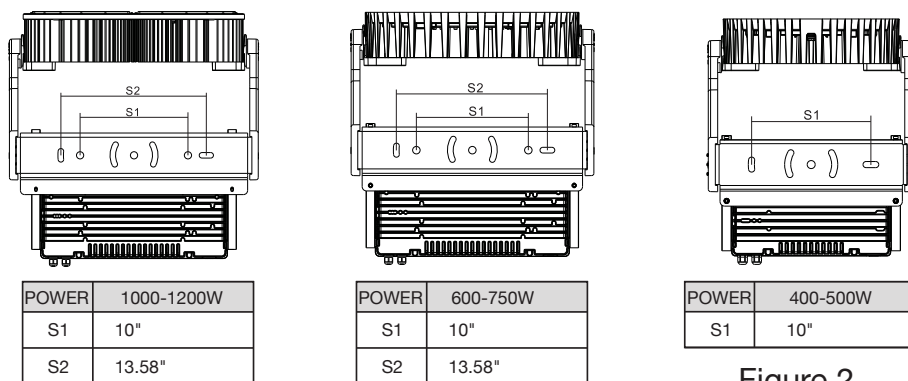

Figure 2
1. Mark the hole distance S1 or S2 shown in the product to be installed (Fig. 2)